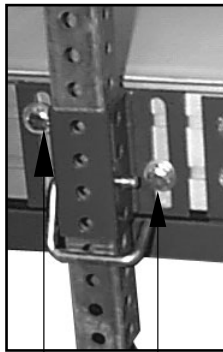

Figure 1
- 1) Loosen the leg brackets (*see Figure 1*) only to change position.